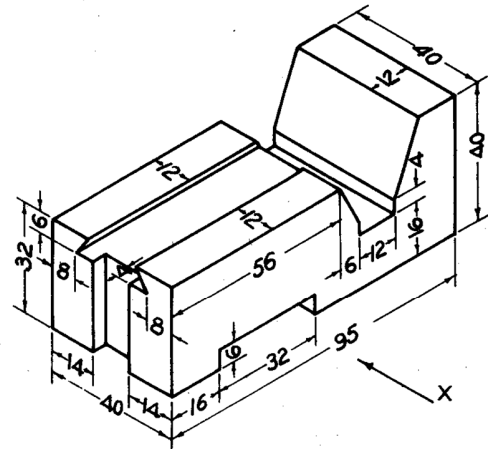

FIG. 18-44
(22) Fig. 18-44: (i) Front view. (ii) Side view from the left. (iii) Top view.